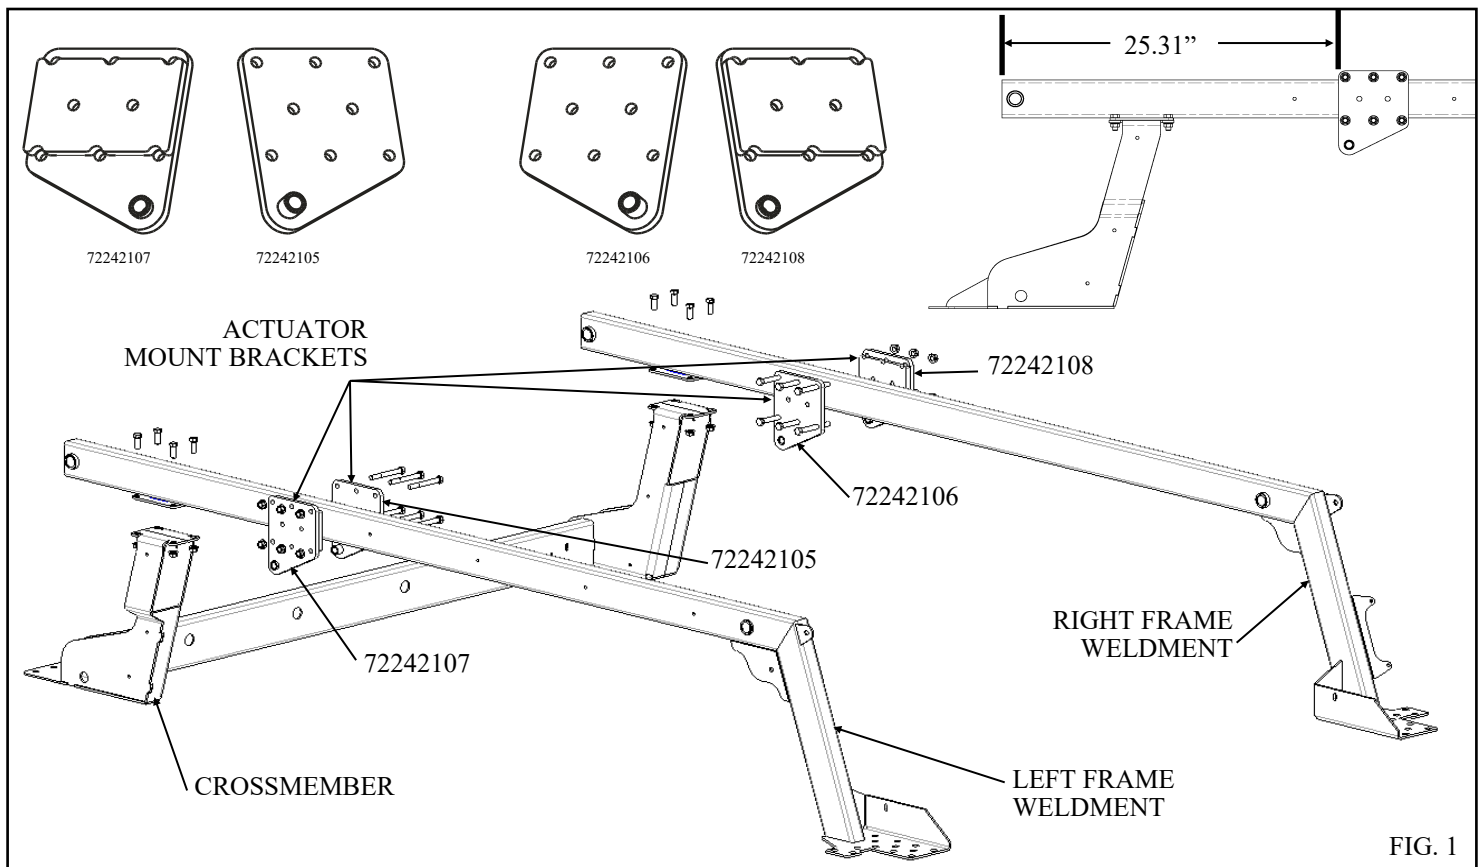

FIG. 1
- 6.2 Inside the vehicle, assemble the left and right frame weldments to the crossmember using (8) 3/8 X 1 UNC bolts and (8) 3/8 serrated flange nuts as shown in **FIG.1**. Finger tighten all attachment bolts. Final tightening will be completed following installation and adjustment of the torsion arm and tie-rods.
- 6.3. Assemble the Actuator mount brackets to the right and left frame weldments, using (12) 3/8 X 3 UNC bolts and (12) 3/8 serrated flange nuts. See **FIG. 1** for the placement of the actuator mount brackets.